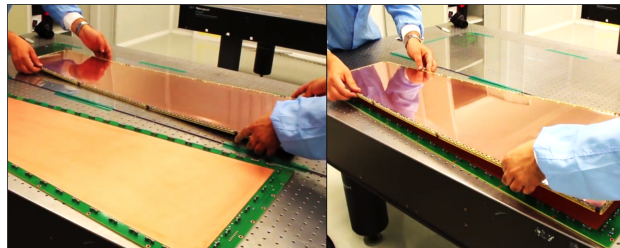

Figure 92: Transferring the GEM stack to the drift board.
Step 7: Dissociate the stack from the Plexiglas base plate by gently pulling it upward (Fig. 92 left). Make sure not to touch the bottom of GEM3 with your fingers or with the guiding pins that may remain attached to the baseplate. Then place the stack on the drift board in the area delimited by the pull-outs (Fig. 92 right).